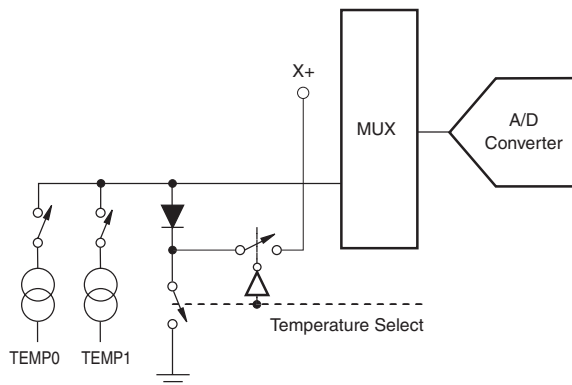

Figure 8. Temperature Measurement Mode Functional Block Diagram
The first mode requires calibrations at a known temperature, but only requires a single reading to predict the ambient temperature. A diode is used during this measurement cycle. The voltage across the diode is connected through the MUX for digitizing the diode forward bias voltage by the ADC with an address of C3 = 0, C2 = 0, C1 = 0, and C0 = 0 (see Table 1 and Figure 8 for details). This voltage is typically 600 mV at 25°C, with a 20- μ A current through it. The absolute value of this diode voltage can vary a few millivolts; the temperature coefficient (TC) of this voltage is very consistent at -2.1 mV/°C. During the final test of the end product, the diode voltage would be stored at a known room temperature, in memory, for calibration purposes by the user. The result is an equivalent temperature measurement resolution of 0.3°C/LSB.